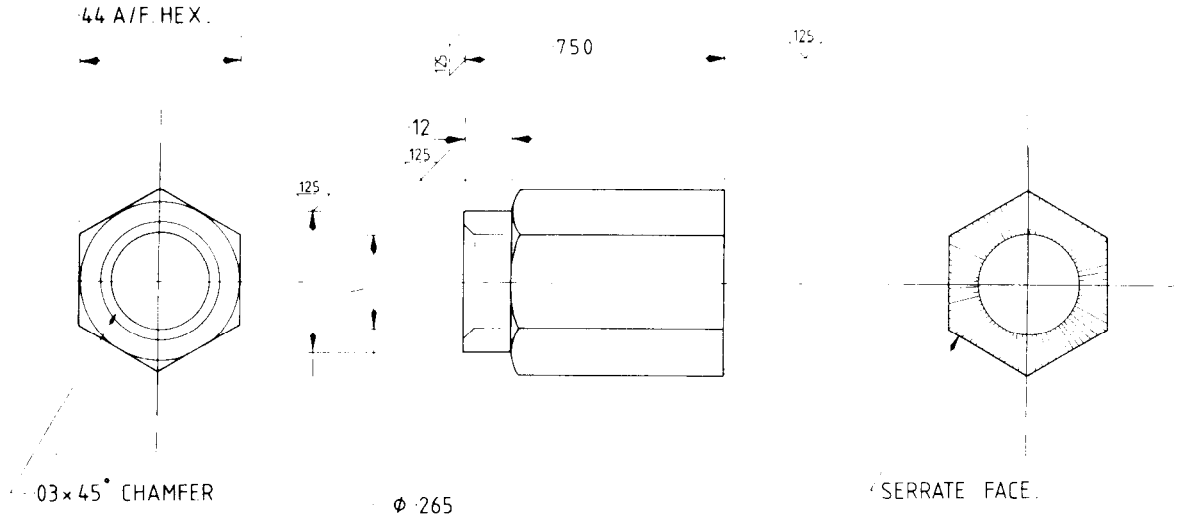

FIG 2 - TOOL FOR INSERTING TAP RIVETS
- c. Using the tool shown in Fig 2, fit the tap rivets, item 3 from Table 1.
1. Tap rivets and the associated fitting tool are not in-service items. As their use is becoming common in industry and the soldier tradesman will come across them on Mack and other vehicles, a simple tool and the method of using it is illustrated in Figs 2 and 3.
- d. Using gasket, item 4 and screws item 3 from Table 1, secure the grab handle in position.
10. Referring to Fig 2, manufacture a tool for inserting tap rivets.